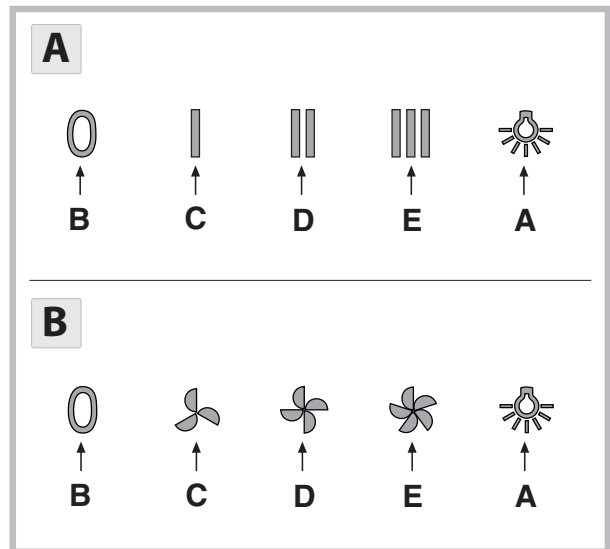

Fig.6
- **Commands:** (Fig.6 A-B) **mechanical** the key symbols are explained below: